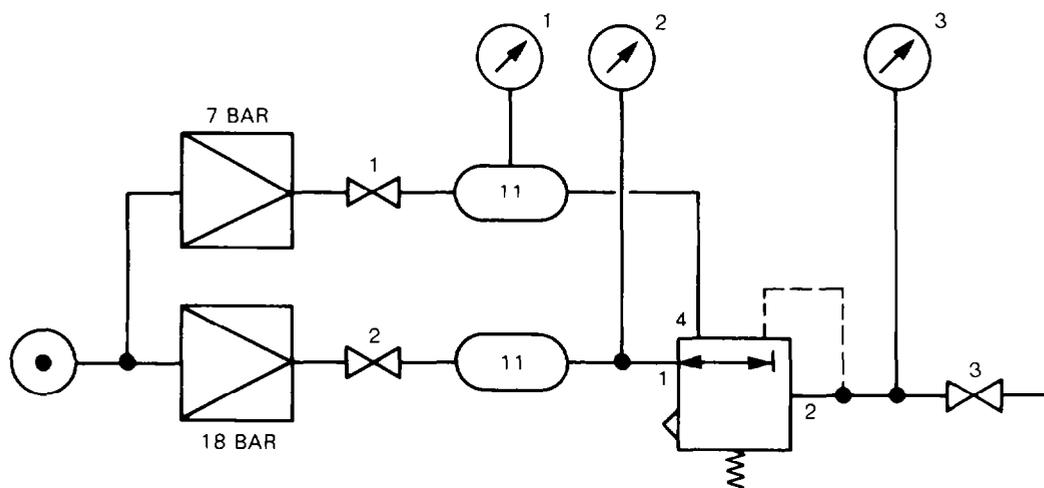

Figure 106 Test Connections
- a. Connect the valve to a pressure source via an 18.0 bar pressure limiter, as shown in Fig 106.
- c. Connect three pressure gauges and stopcocks as shown in Fig 106.